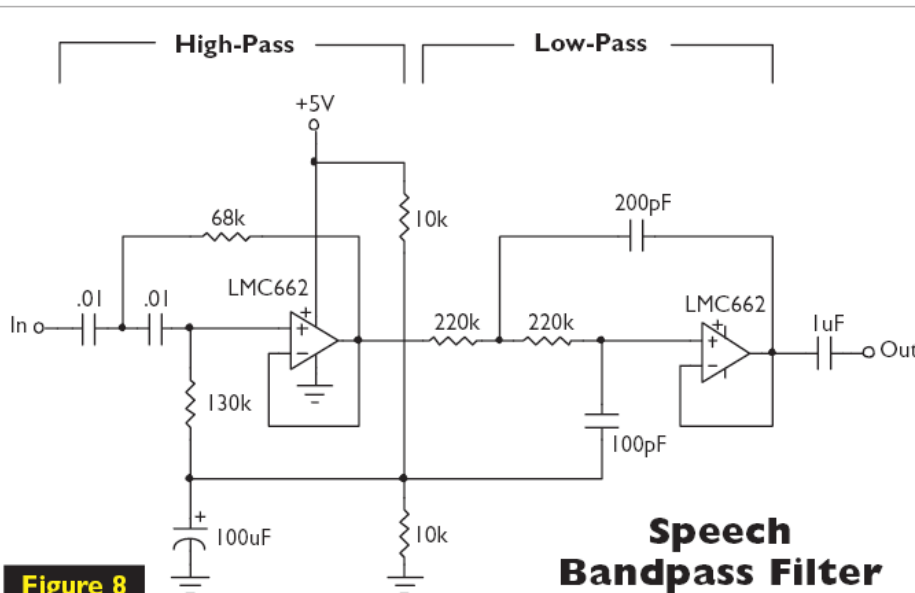

Figure 8
A. What you want is a speech filter — essentially a bandpass filter with cut-off frequencies of 300 Hz and 3 kHz. This is usually done using a Sallen-Key filter configuration, shown in Figure 8. The